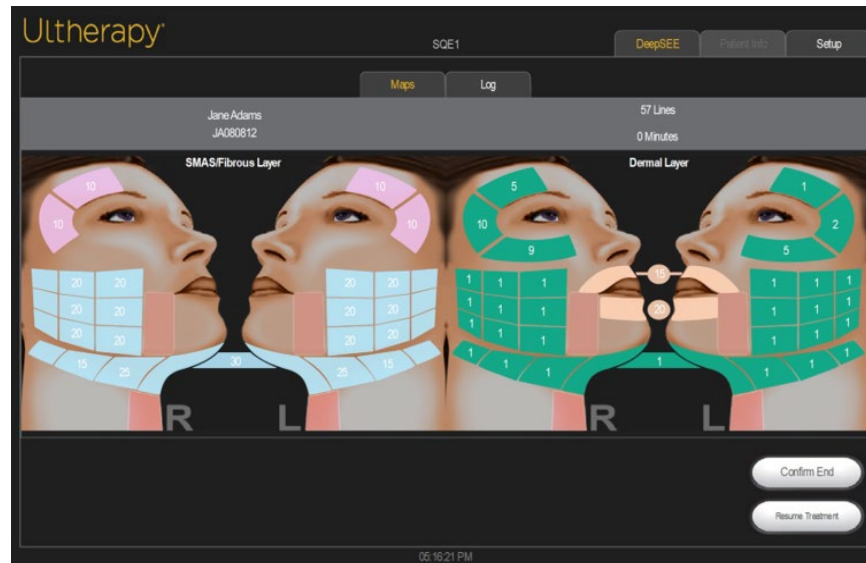

Figure 7.17, Maps display in Treatment Summary Screen
7. In the **Maps** display, a map summary showing the treated regions and number of lines delivered per region will appear as shown in Figure 7.17.